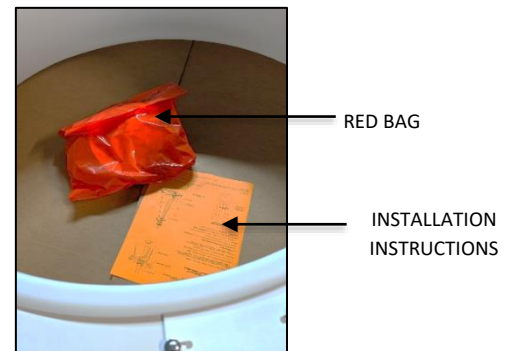

FIG.4 RED BAG AND
2. INSTALLATION INSTRUCTIONS (shown in FIG. 4) - Please completely read the install instructions before starting installation.
3. RED BAG (shown in FIG. 4) contains below following items